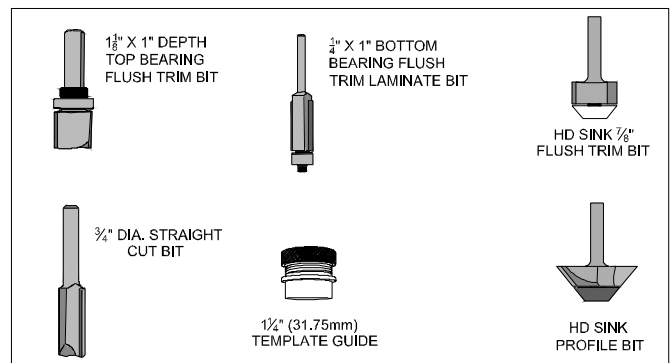

Figure 3B
- General Router Bits (FIG. 3B)
- Template Guide (FIG. 3B)
- HD Sink bits (FIG. 3B)